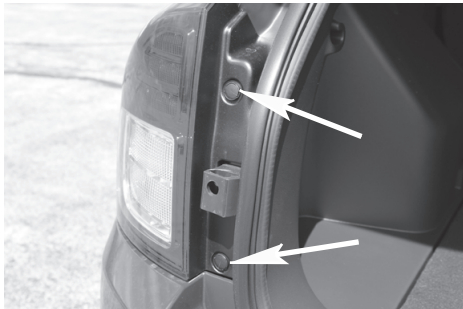

Figure 1
2. Open tailgate remove two push clips that hold both taillight assemblies to vehicle using a flat screwdriver shown in Figure 1.